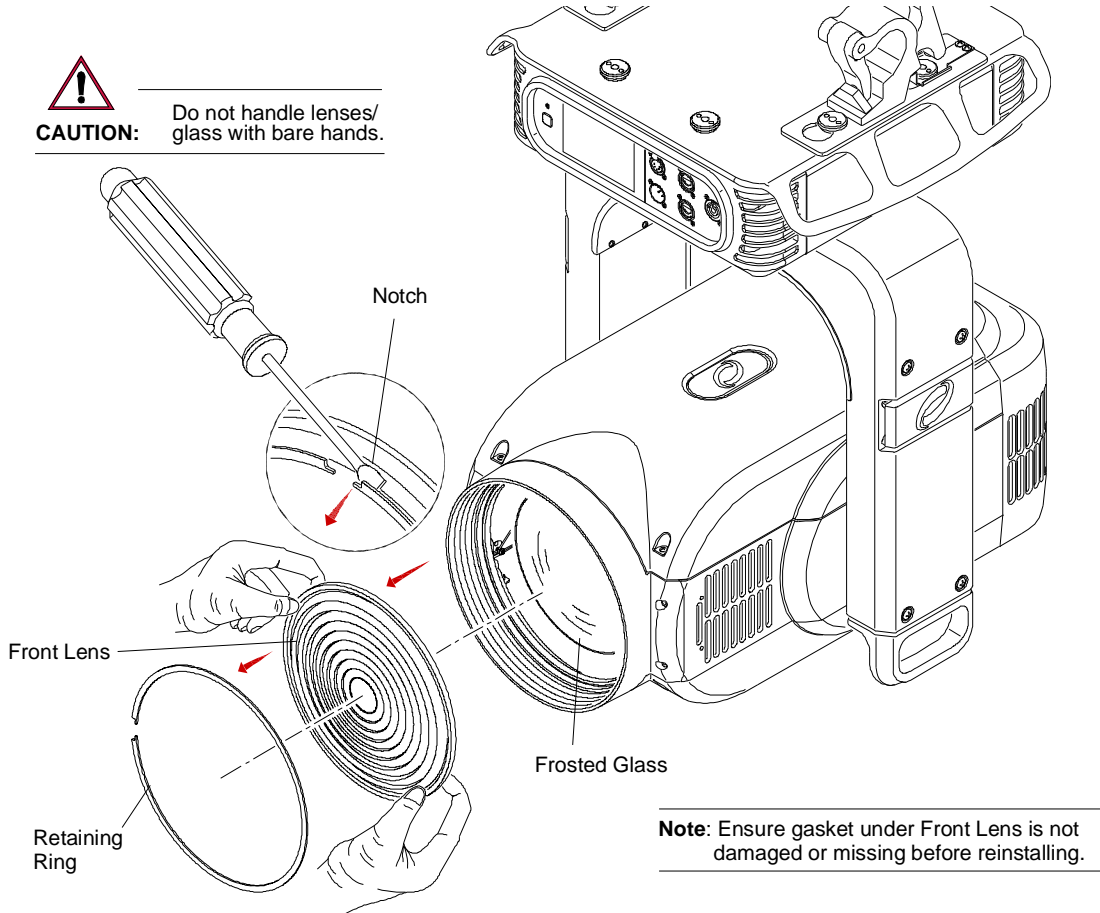

Figure 4-11: Replacing Front Lens (Standard or Narrow)
- Step 4. Insert flat screwdriver under notch in Retaining Ring (**Figure 4-11**). Carefully remove Retaining Ring.